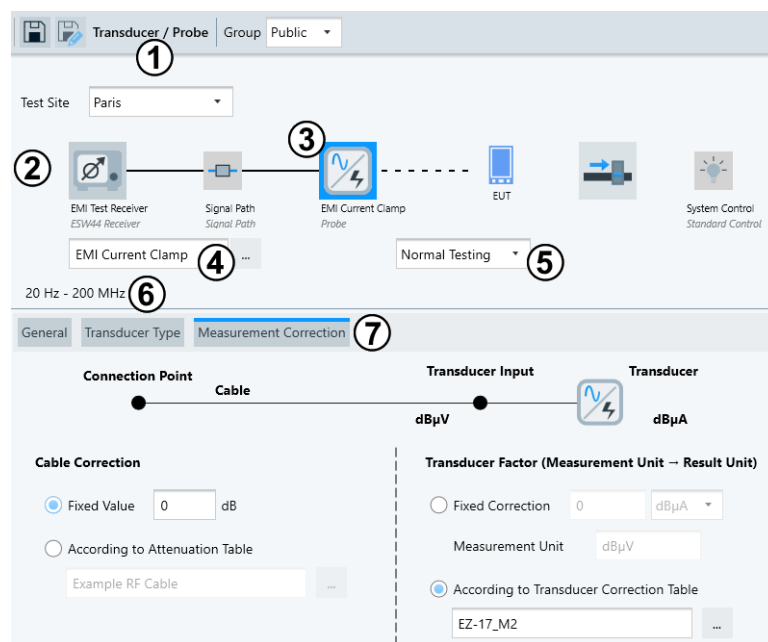

Figure 4-130: Example of an EMI hardware setup dialog (here: Transducer / Probe)
In contrast with hardware setups for EMS tests, you cannot define frequency ranges for EMI hardware setups. Instead, each EMI hardware setup is valid for the full frequency range (labeled (6) in Figure 4-130) that is jointly covered by the referenced devices.
To select a device or a signal path for integrating it into the hardware setup diagram, click its icon. For example, click the transducer icon (labeled (3) in Figure 4-130).